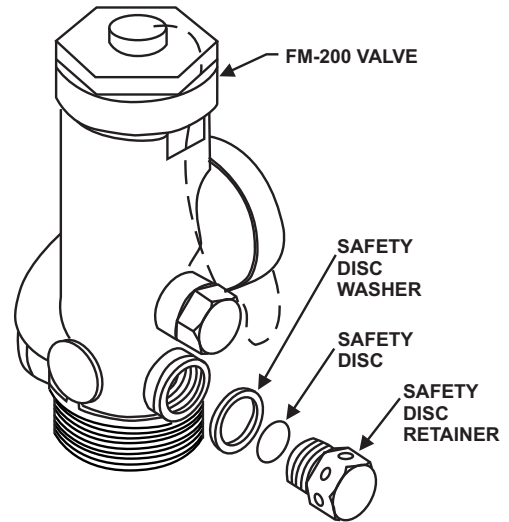

Figure 6-4. Safety Disc Replacement
**Note:** Refer to Figure 6-4.